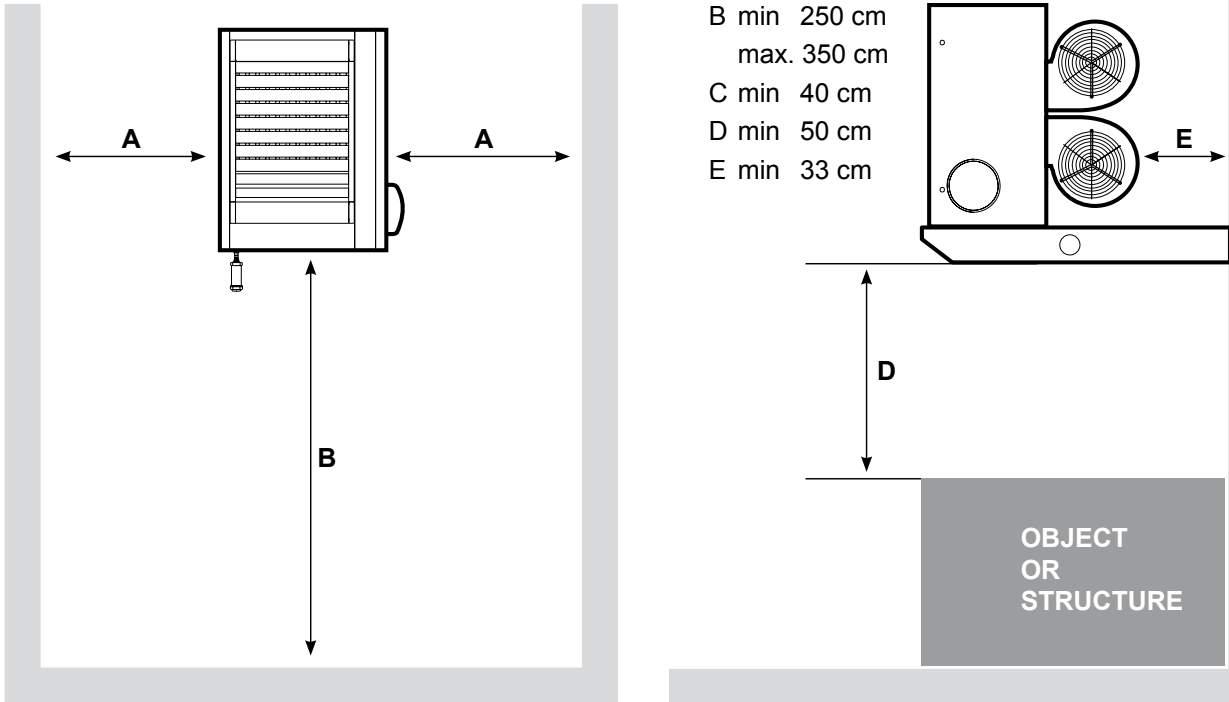

Fig. 15 B
- The optimal height recommended from the ground to the base of the generator is 2.5 - 3.5 m (see Figure 15 A / B). Heights below 2.5 meters are not recommended in as the flow of air coming out of